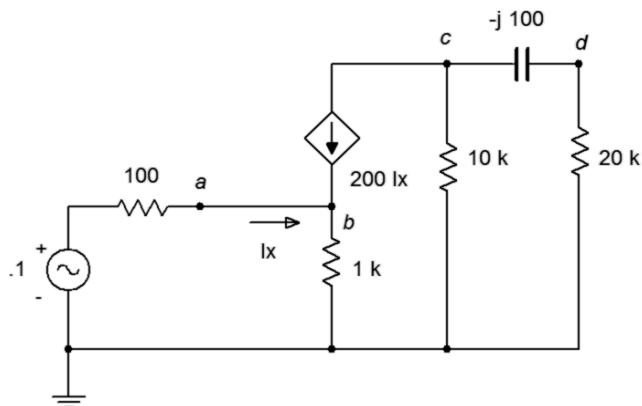

Figure 6.26
58. In the circuit of Figure 6.26, determine v_d .
59. Given the circuit in Figure 6.26, determine the current flowing through the $1\text{ k}\Omega$ resistor.